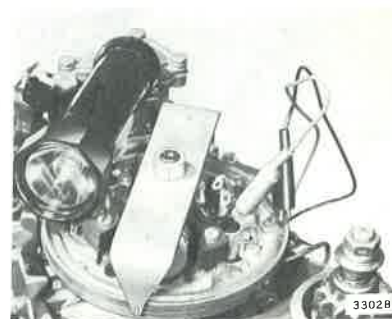

Figure 4-27. Connections for Checking Timing
b. Disconnect all leads from breaker point assemblies. Connect meter or test light between breaker plate and forward breaker point screw terminal. See Figure 4-27.